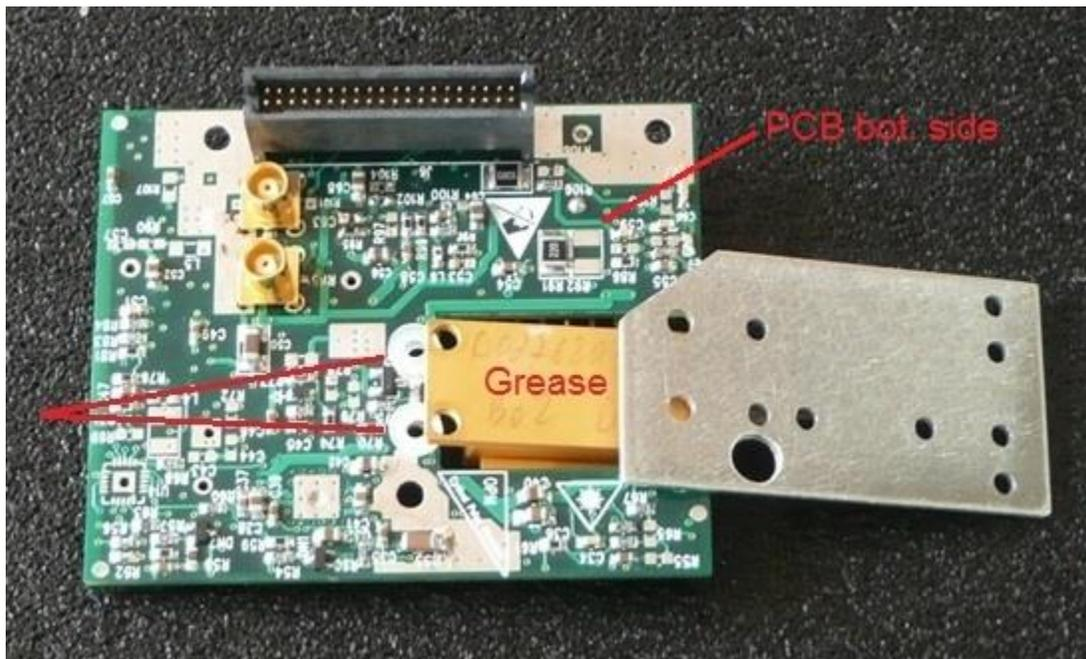

Figure 2
5. Put the laser diode (LD) on the washers – as shown in figure 2. Apply some thermal grease on the laser-diode's back for improved heat transfer to the heat-sink. Slide the heat-sink over the LD until holes match.